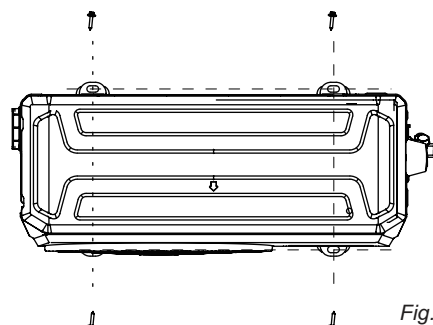

Fig. 4-3
4.1.1 Outdoor unit, see Fig. 4-2, Fig. 4-3 and Table 4-1. (Unit: mm)